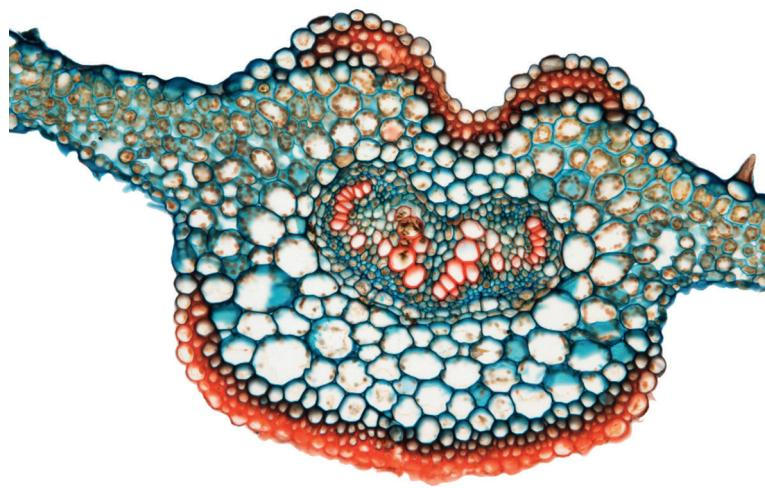
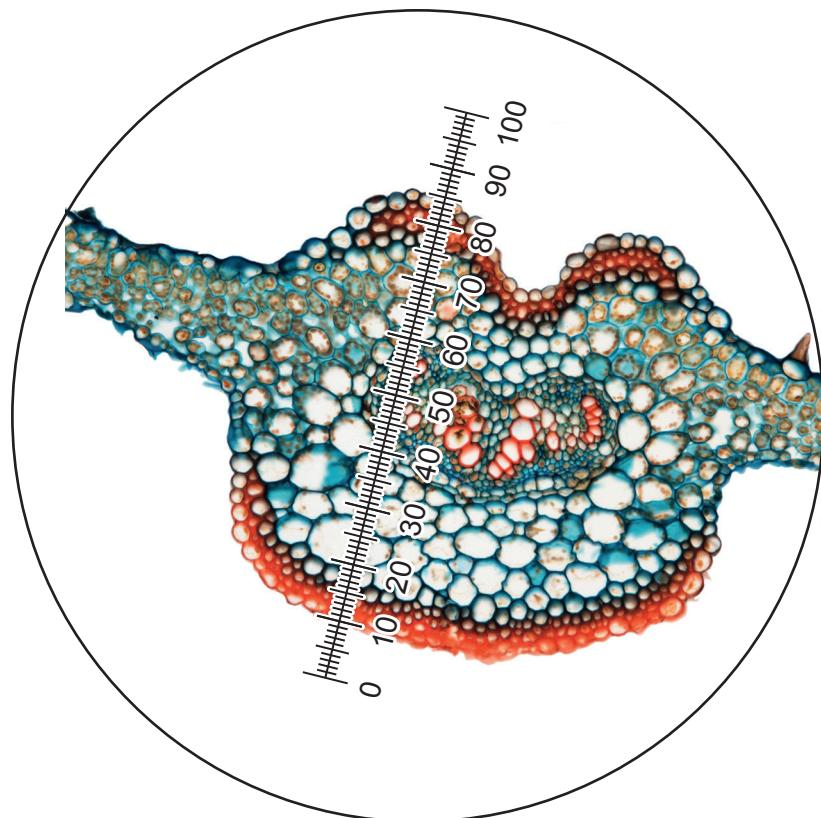

Fig. 2.2
Fig. 2.4
- (b) Fig. 2.2 is a photomicrograph of a transverse section through a different leaf from J1.
- (i) Identify **three** observable differences, other than colour, between the section on J1 and the section in Fig. 2.2.
- (iii) Fig. 2.4 shows the same eyepiece graticule and same lenses being used to measure the width of the section shown in Fig. 2.2.
Use your answer in (b)(ii) to calculate the actual width of the section shown in Fig. 2.4.